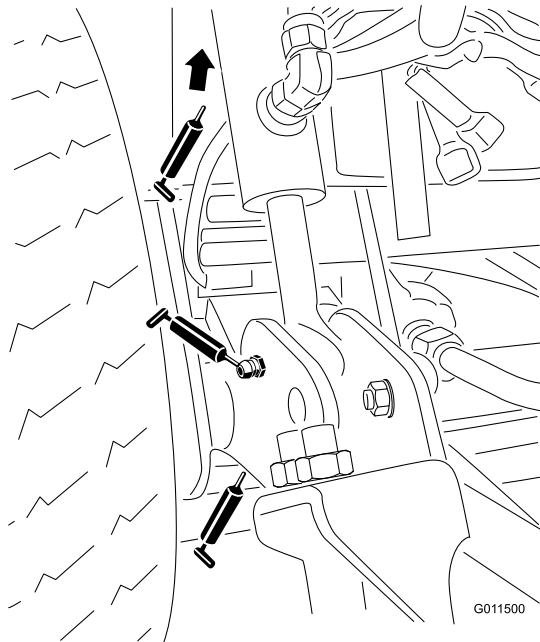

Figure 46
- Lift arm bushings (2) (Figure 46)
- Lift cylinder bushings (4) (Figure 46)